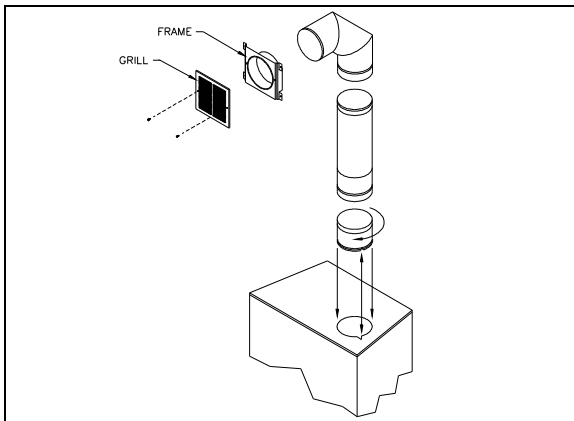

Figure 15
*Double hot air outlet including: (See Fig.15)*
1. Remove the plates closing up the 8" dia. holes on top of the fireplace. Then, cut the insulation in order to obtain two 8" dia. openings. Fix the adaptors on the fireplace openings by turning clockwise (figure 15).